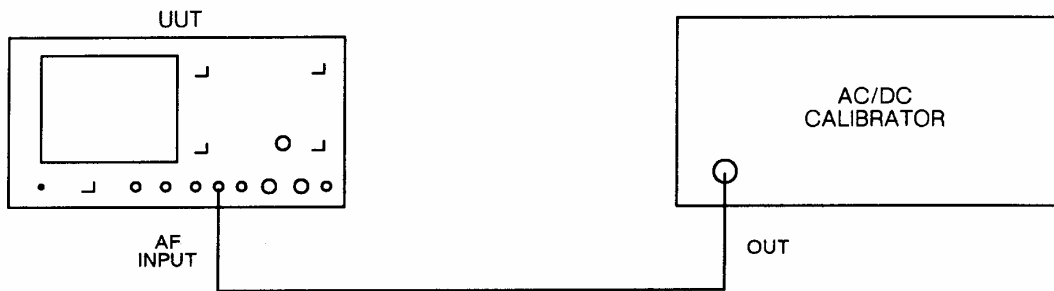

Fig. 5-1-1 Test equipment connections for oscilloscope AF level gain performance checks
- (1) Set the UUT to RX, SCOPE, DC coupled, 50 kHz LOW PASS filter distortion/SINAD/SN off.
- (2) Use the vertical POSITION control to move the trace to the bottom dotted graticule line.
- (3) Connect the equipment as shown in Fig. 5-1-1.